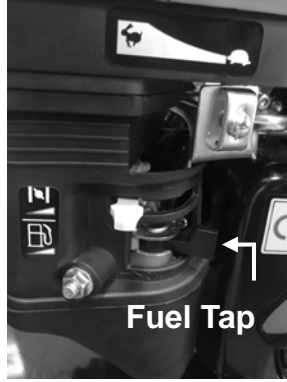

Fig.7B
3. To start a cold engine, move the fuel tap to the “on” position (Fig. 7B). Move the choke lever to the “on” position (Fig. 7B).